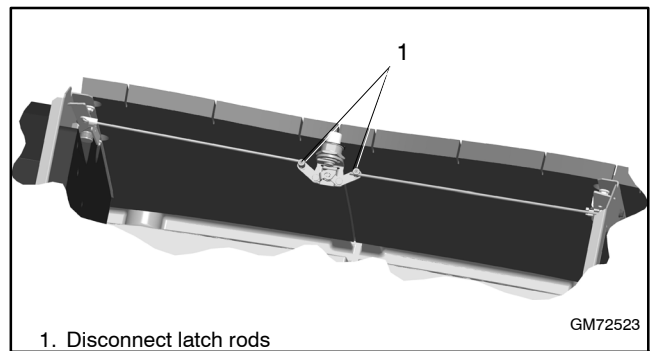

Figure 6-5 Door Latch Detail (original design)
- a. Disconnect the latch rods at the red plastic connectors. See Figure 6-5.